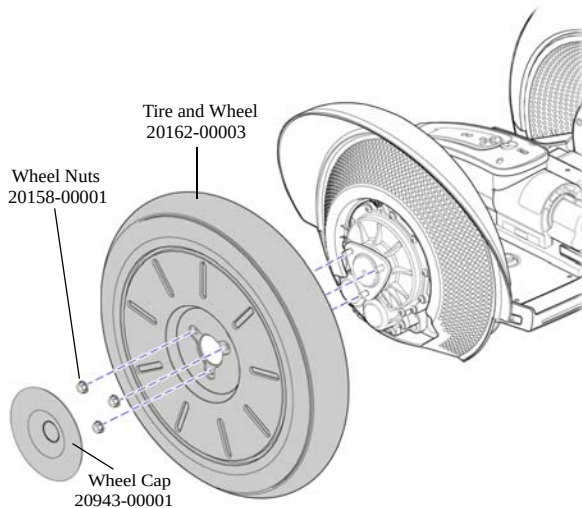

Figure 4-1: Remove Tire/Wheel Assembly, i2
2. Place tire/wheel assembly on gearbox flange. See Figure 4-1.
3. Using 13mm torque wrench, drive (3) wheel nuts (20158-00001) and torque to 30 N-m. Tighten only to the prescribed torque.
3. Remove wheel cap. Press on edge of wheel cap and lift off from opposite edge. (Model x2 Turf has spacer as shown on page xv.) See Figure 4-1.
4. Using 13mm socket wrench, remove (3) wheel nuts (20158-00001).